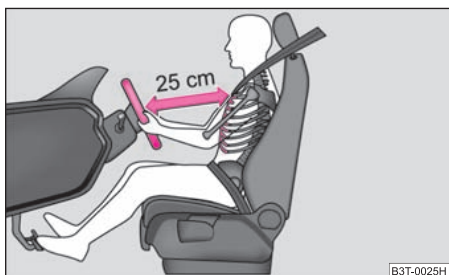

Fig. 104 Safe distance to steering wheel
- The driver must maintain a distance of at least 25 cm to the steering wheel ⇒ fig. 104. Not maintaining this minimum distance will mean that the airbag system will not be able to properly protect you - hazard!